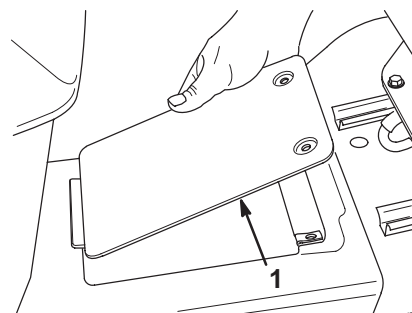

Figure 31
3. Open the drive shaft maintenance cover on the tractor tunnel near the seat by unscrewing the two screws securing it, then raising it (Fig. 31).